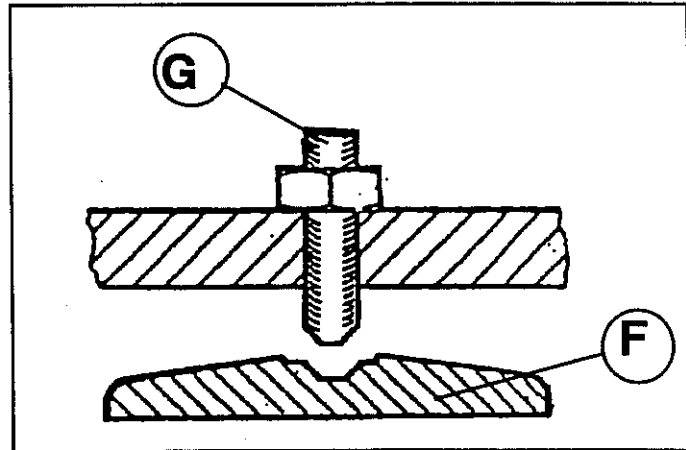

Fig.2.5
Put plates (F fig.2.5) under grub-screws (G) in order to level the machine.